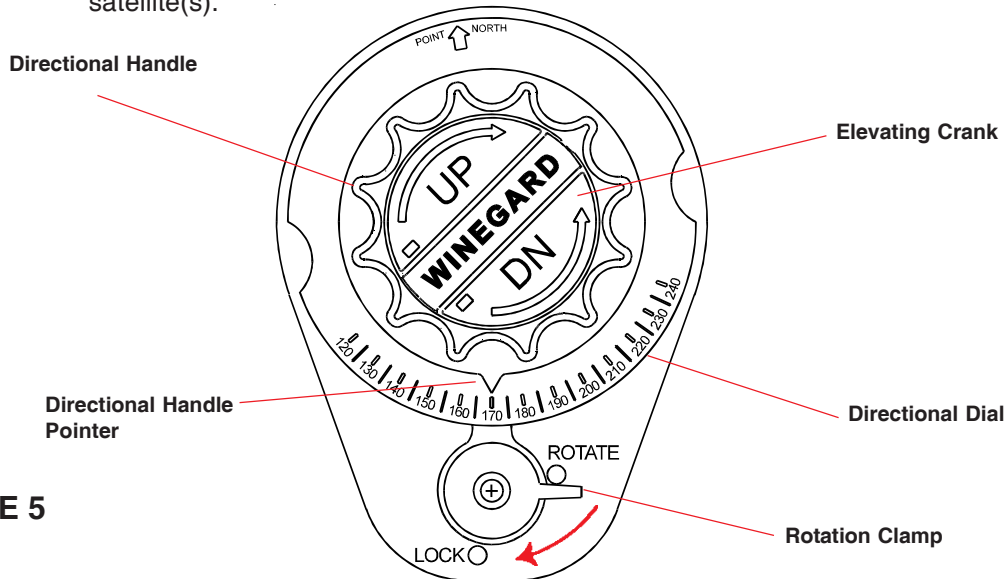

FIGURE 5
STEP 3. Rotate directional dial (see Figure 5) until the arrow is pointing North.